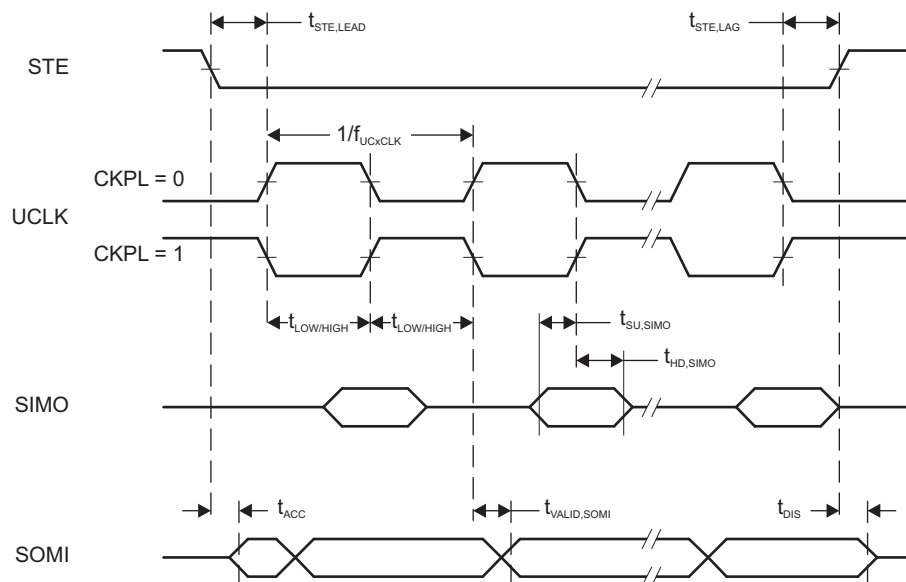
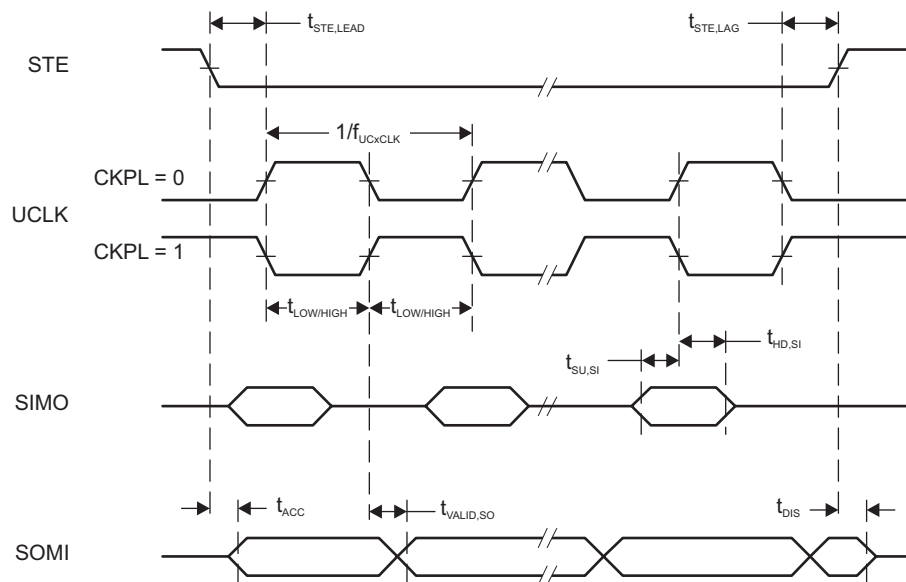

Figure 5-14. SPI Slave Mode, CKPH = 0
Figure 5-15. SPI Slave Mode, CKPH = 1
(2) Specifies the time to drive the next valid data to the SOMI output after the output changing UCLK clock edge. See the timing diagrams in Figure 5-14 and Figure 5-15.
(3) Specifies how long data on the SOMI output is valid after the output changing UCLK clock edge. See the timing diagrams in Figure 5-14 and Figure 5-15.